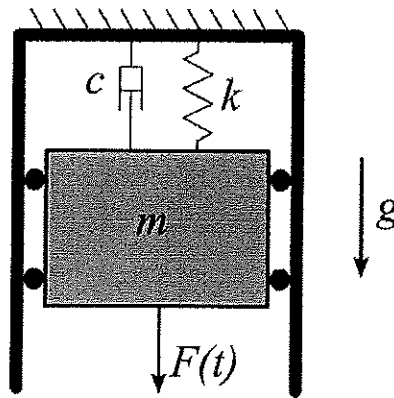

Figure Q02
- (a) A body mass ' m ' is moving downward as shown in Figure Q02. The motion of the mass is controlled by a spring of stiffness ' k ' and a dash pot of damping constant ' c ' attached to the frame. $F(t)$ is the external force that act on downward direction.
- Write the equation of motion for the system shown in Figure Q02:
- (b) For the system shown in Figure Q02, spring stiffness $k = 10,000 \text{ N/m}$, $m = 0.633 \text{ kg}$, $x_o = 0.1 \text{ m}$, $v_o = 10 \text{ m/s}$ and the damping ratio $\beta = 0.05$. (x_o and v_o are initial values)
- Compute the ratio of the damped to the undamped natural frequency for damping ratios of (I) 5%, (II) 10% and (III) 20% of the critical damping.